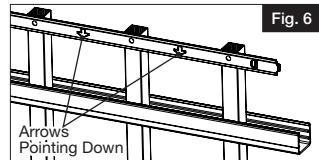

Fig. 6
- Push bolts through post plate and attach separate bottom plate from beneath deck surface (Fig. 6).
- d. Snap in bumps from locking strip into holes of the baluster for both top and bottom rails. Make sure arrows on locking strip face rails (Fig. 6). Arrows will point towards each other during assembly. Run your fingers along both the rails to ensure locking strip is fully engaged prior to moving on to Step 3. Strips must be fully engaged to lock balusters in place.
- For the bottom rail only, add $\frac{3}{4}$ " (toward the rail end or post) to the marks made on the panel in step 3 (Fig. 6) and cut the panel at these marks.